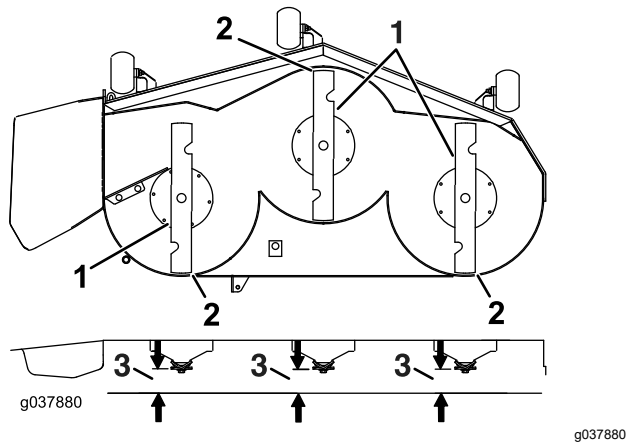

Figure 99
7. Check the front-to-rear blade level (Figure 99). Ensure the front blade tip is lower than the rear blade tip as shown in the block height and rake table. If adjustment is needed, continue with this procedure.